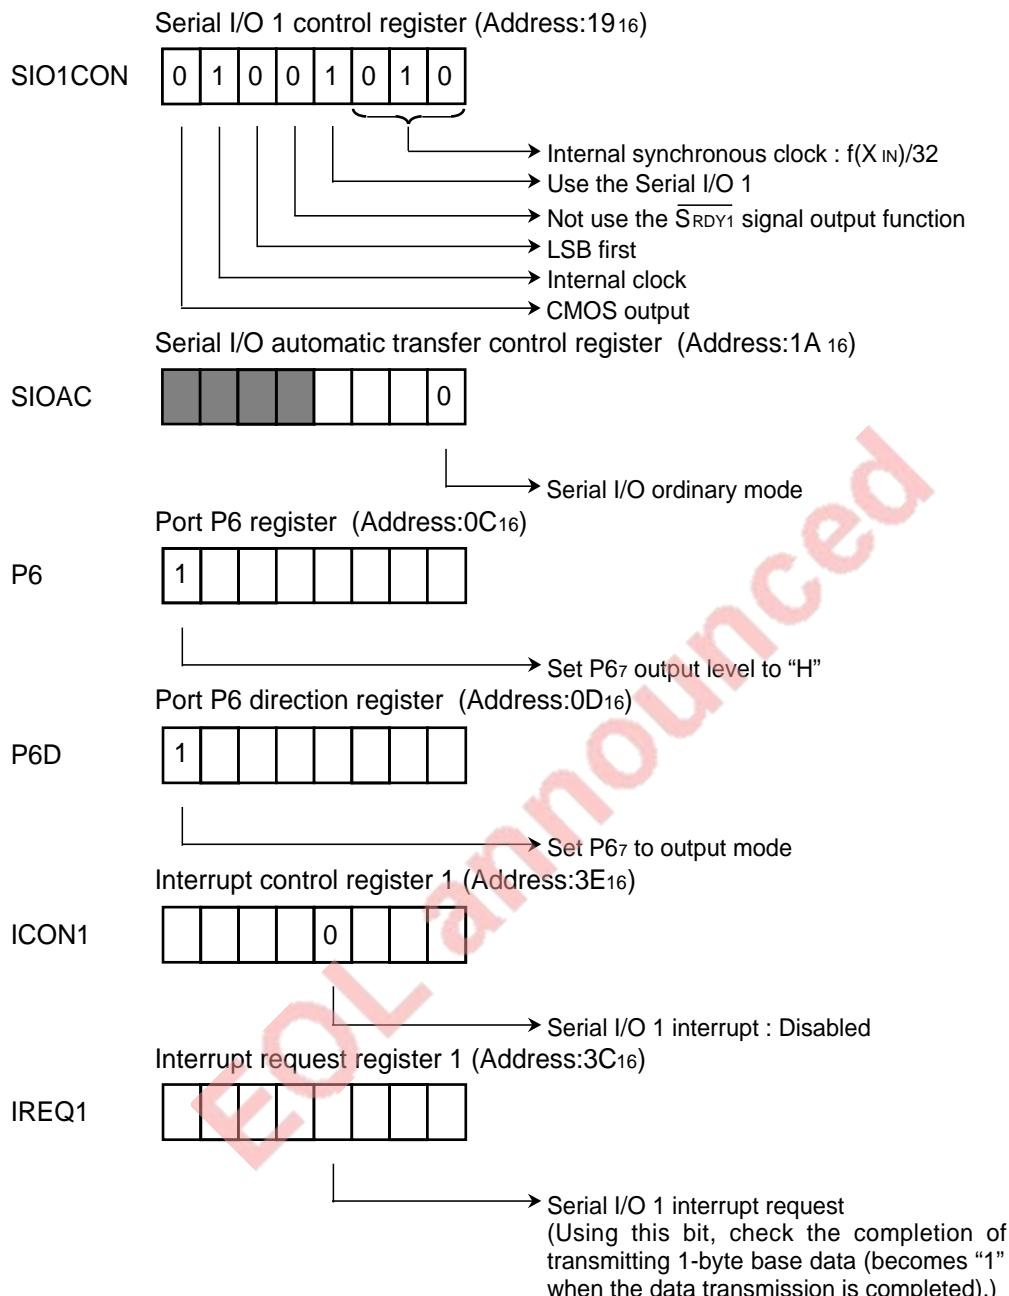

Fig. 2.3.15 Setting of related registers [Output of serial data]
**Control procedure :** When the registers are set as shown in Fig. 2.3.15, the Serial I/O 1 can transmit one-byte data simply by writing data to the Serial I/O 1 register.